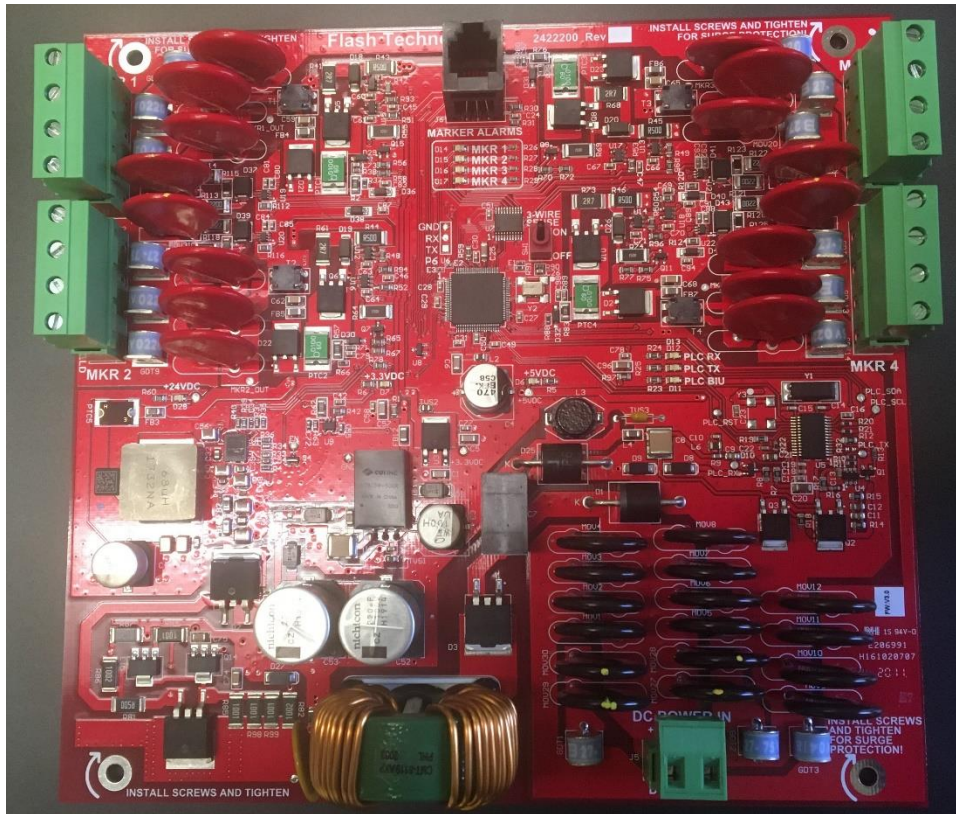

Figure 6: Marker Interface Board (IR)
4. Each marker interface board is equipped with a “3-WIRE SENSE” selector switch (see figure 6 below) to enable use with either MKR 371 or MKR 372.